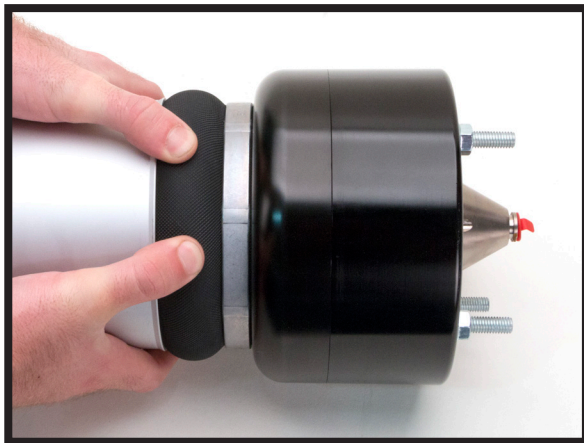
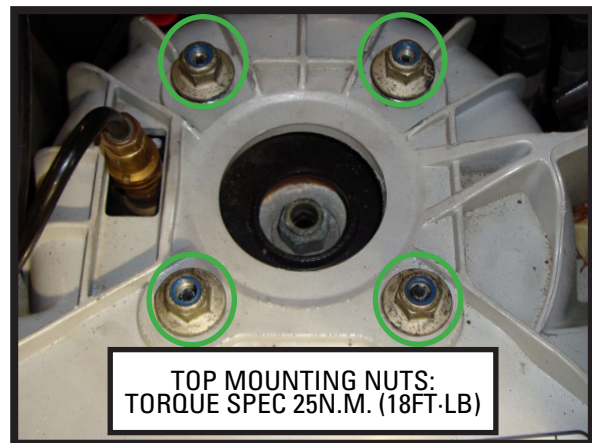

FIGURE 1
FIGURE 2
1. THIS PRODUCT SHIPS PRESSURIZED, PRIOR TO INSTALLATION PLEASE ENSURE IT IS PROPERLY INFLATED BY PRESSING ON THE EXPOSED PORTION OF THE AIR SPRING. THE AIR SPRING SHOULD BE FIRM AND RESEMBLE THE IMAGE BELOW. IF THE AIR SPRING IS NOT INFLATED OR DOES NOT RESEMBLE THE IMAGE BELOW, PLEASE CONTACT YOUR AUTHORIZED RETAILER. (FIGURE 1) WHEN INSTALLING, BE SURE TO TORQUE THE TOP MOUNTING NUTS TO 25N.M. (FIGURE 2)